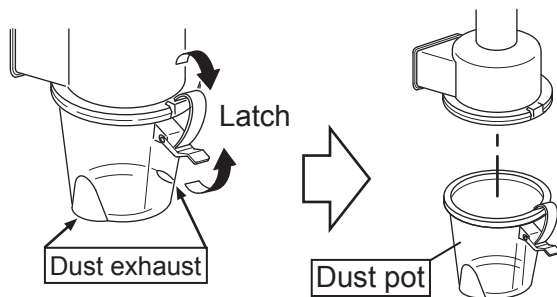

Fig.28
i) Latch off to remove Dust Pot. (Fig.28)